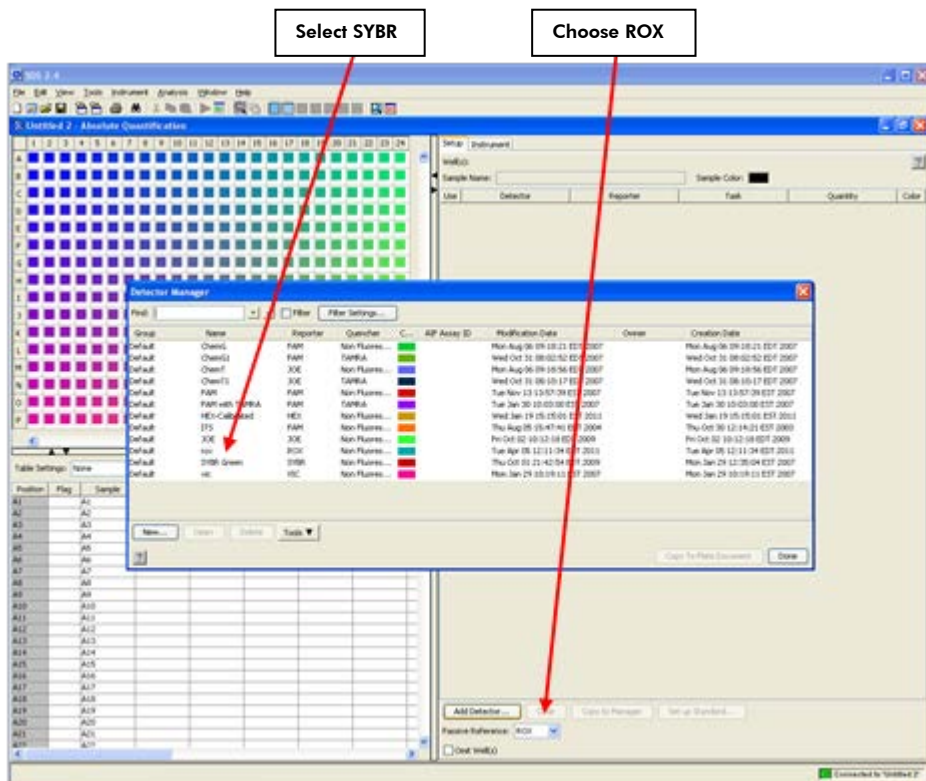

Figure 1. "Detector Manager" screen.
- Select “Assay”: “Standard Curve (AQ).”
- In the “Detector Manager” window, select SYBR® for the reporter dye, click the “Copy To Plate Document” button, and click the “Done” button (see Figure 1). Ensure that ROX is selected for “Passive Reference.”